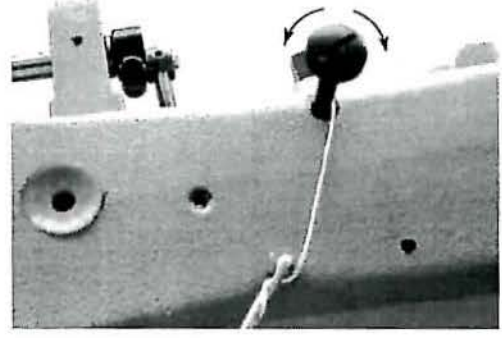

Fig.16
11.AJUSTMENT OF THE PRESSURE (Fig. 16)